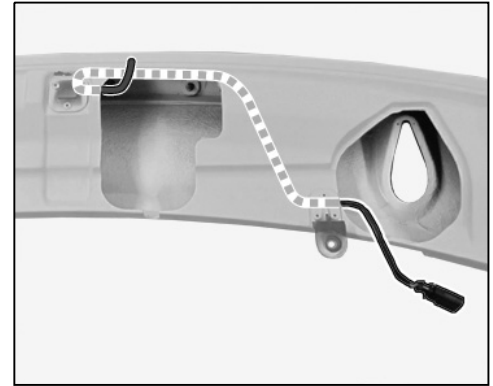

Figure 14
- 3.2.3 Install new electric wire harness in new lower part of Aerokit rear spoiler (⇒ *Figure 14*).